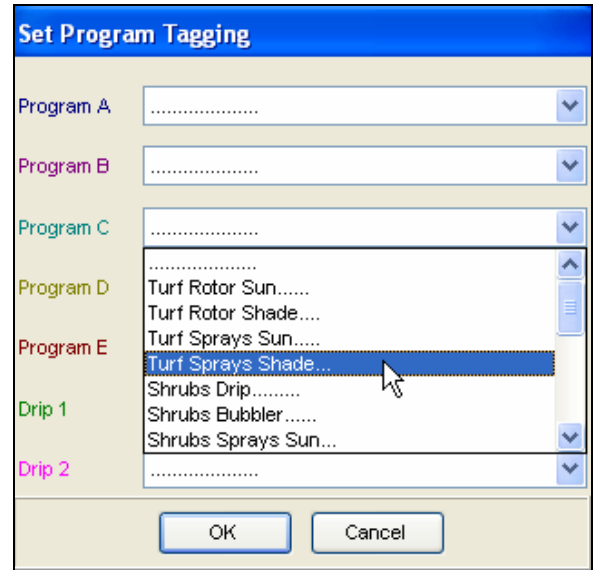

Figure 16.1.14D
10. By using the drop down arrow to the right you can choose a name for the selected program from a list provided (Figure 16.1.14D).